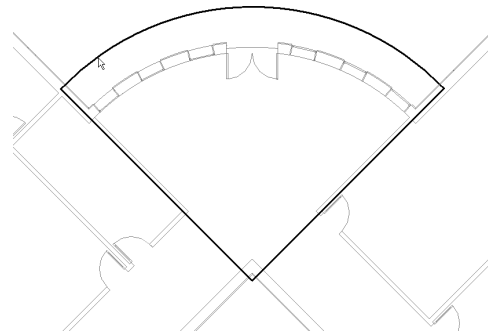

Figure 6-49 The completed Lounge roof profile
28. Ensure that the **Define Slope** check box in the **Options Bar** is clear and sketch the two lines to complete the boundary of the Lounge roof, as shown in Figure 6-49.